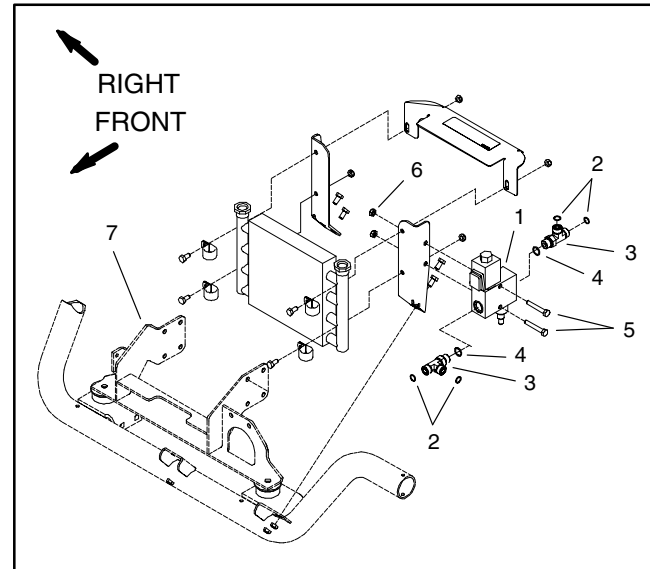

Figure 41
Removal (Fig. 41)
4. Remove manifold from vehicle using Figure 41 as a guide.
Installation (Fig. 41)
1. Install manifold to vehicle using Figure 41 as a guide.